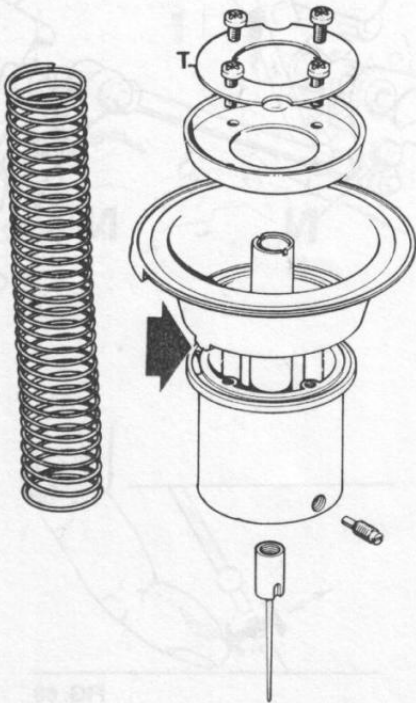

FIG. 69
13. Check the condition of the piston and diaphragm ensuring that the diaphragm location tabs locate correctly in the piston recess, as seen in **Fig. 69**.